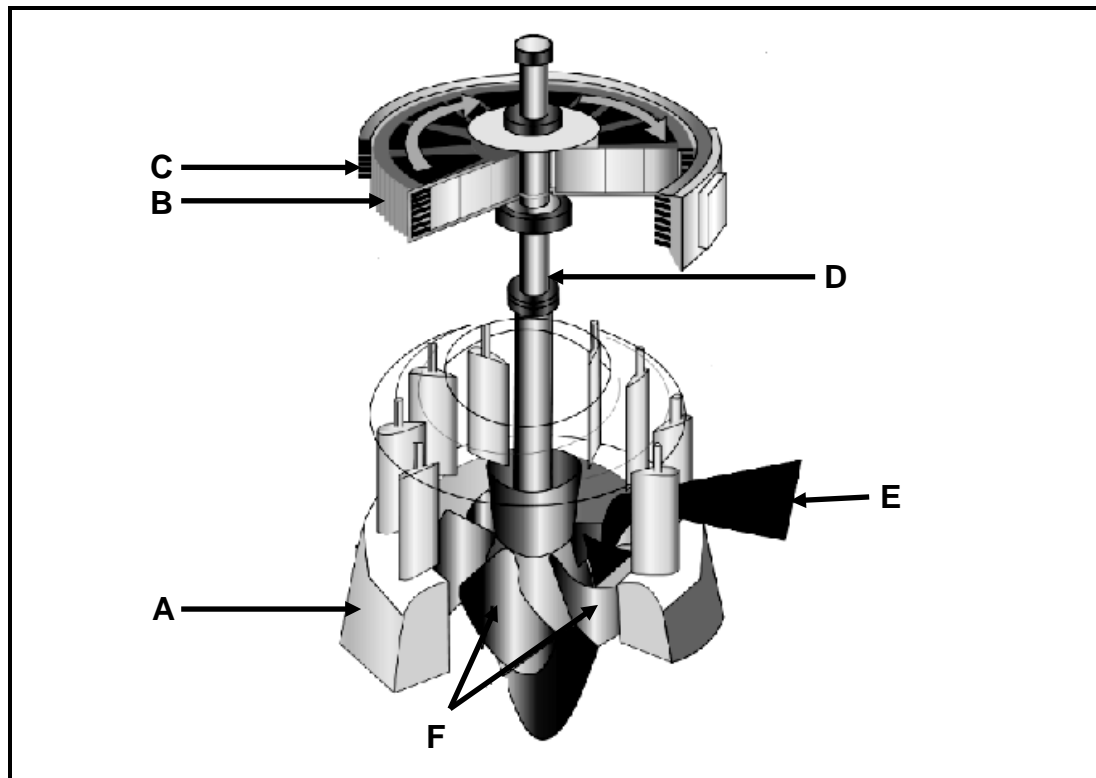

FIGURE 10.1
10.2 FIGURE 10.1 shows a water turbine driving a generator. Answer the questions that follow.
10.2.1 Identify the type of turbine shown in FIGURE 10.1 above. (1)
10.2.3 State TWO advantages of the turbine shown in FIGURE 10.1 above. (2)